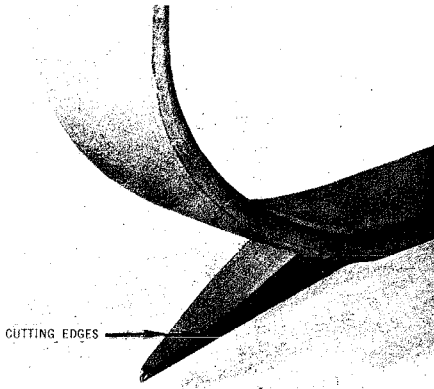

Fig. 17—Gaff Cutting Edges
**7.01** During normal use of climbers the edges along the inner surface (cutting edges), Fig. 17, may become dull. The honing stone should be used to maintain sharp edges. Remember that even a dull gaff can cut your finger, so hone carefully.